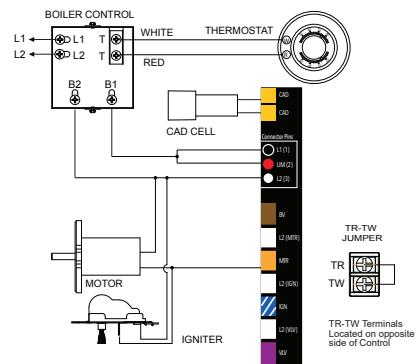

Figure 4 – 7565 (for replacement of R7184B)
**NOTE:** To disable motor-off delay on a 7565 control, jumper L1 and limit together and wire as shown in Fig. 4 or just program it with a zero second motor-off delay